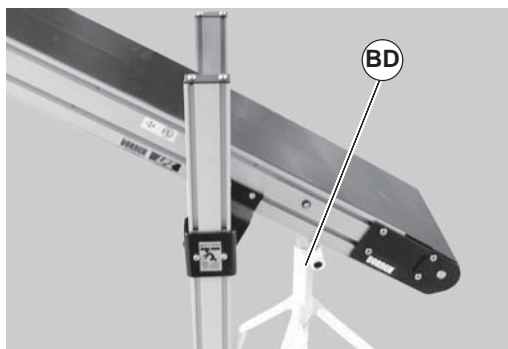

Figure 41
1. Place temporary support (Figure 41, item BD) under conveyor sections.